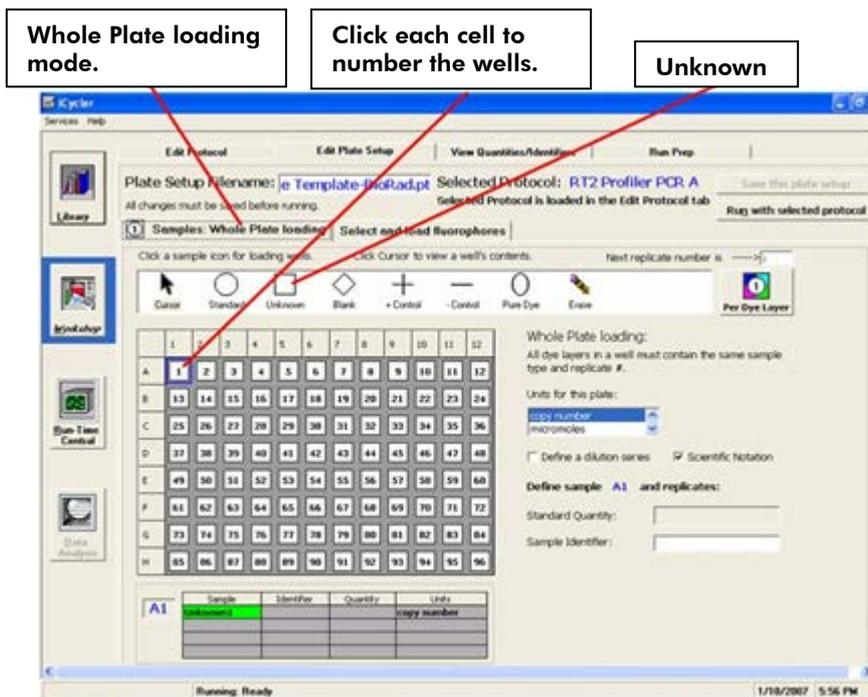

Figure 2. Plate setup — sample loading.
3. To set up a template file for Plate Setup, click on the Library module on the left panel and then select the View Plate Setup tab; click Create a New Plate Setup on the right. This will open the Edit Plate Setup tab in the Workshop module. Choose the Whole Plate mode. In the Samples: Whole Plate Loading tab (see Figure 2), click to select the icon for Unknown. In the diagram of the 96-well plate, click on each well one at a time to designate the sample type as Unknown and number the well.